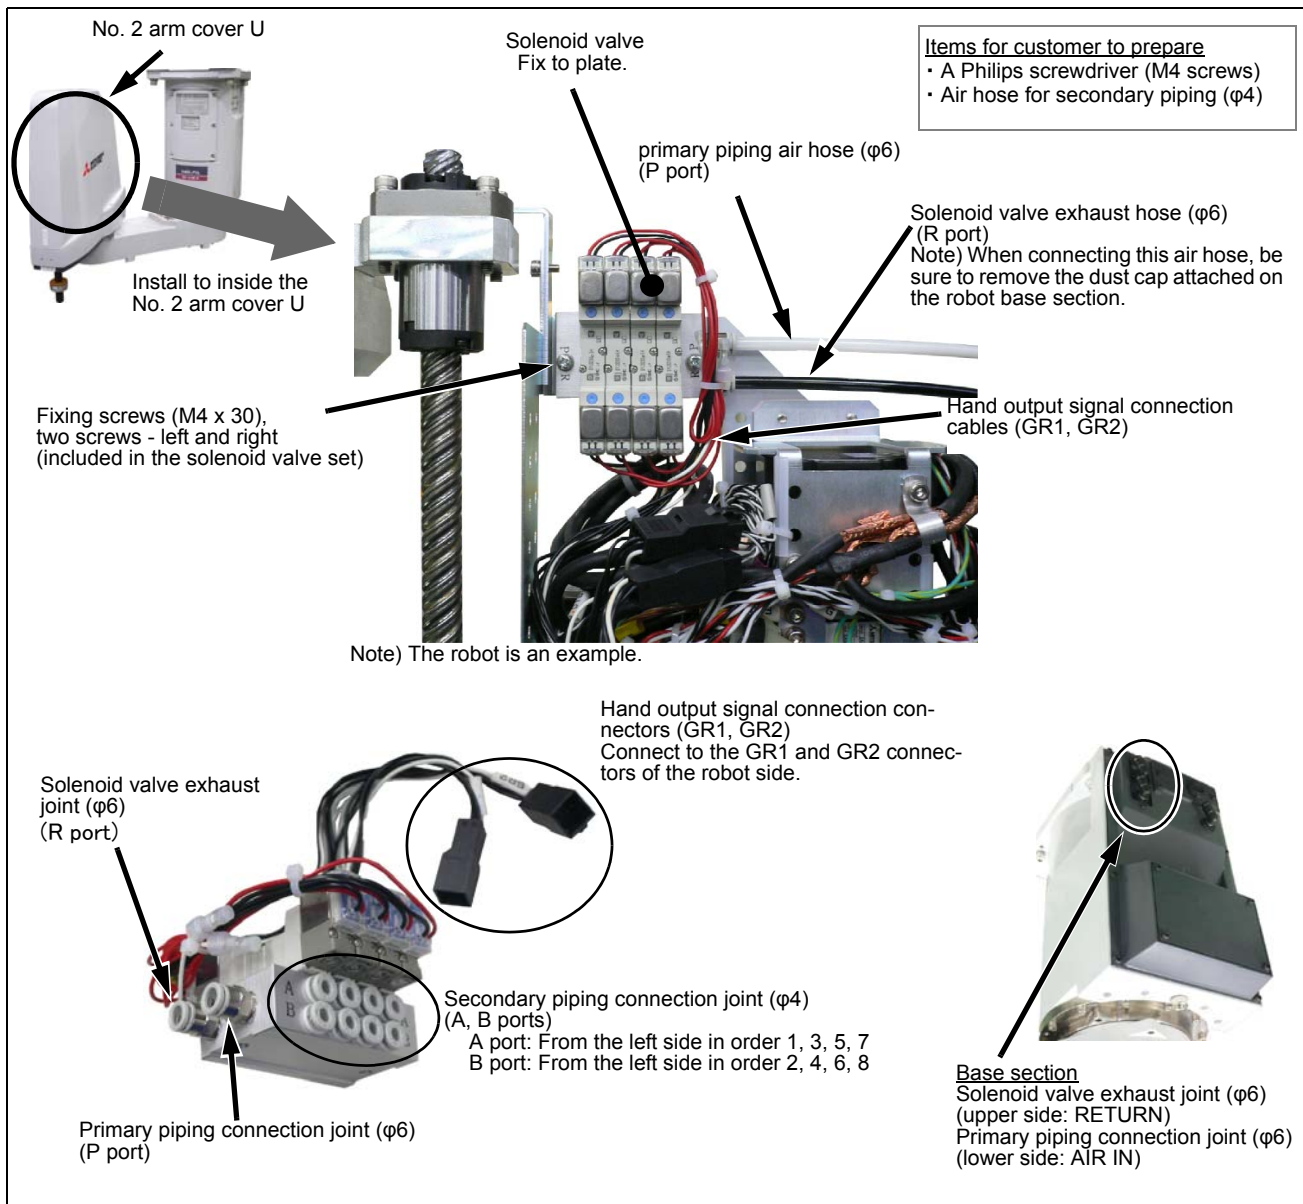

Fig.3-1 : Solenoid valve installation procedures
The installation summary of the solenoid valve is shown in Fig. 3-1. Remove the No.2 arm cover U, and install the solenoid valve on the No.2 arm. Turn the controller's power OFF before this installing operation. Refer to Page 68, "5.3.2 Installing/removing the cover" for removing/ installing the cover.
- 2) Fix the solenoid valve to the plate in the position indicated in Fig. 3-1. Place it so that the solenoid valve's primary piping connection joints (P, R ports) are located on the right hand side, and fix it securely using the M4 screws included (tightening torque: 1.39 to 1.89N · m).